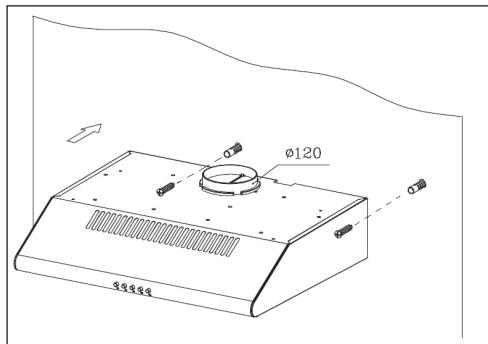
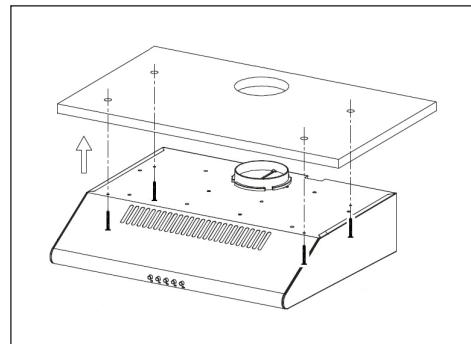

Fig. 4
Fig. 5
4. Drill the holes and fasten the hood according to Fig. 4 into the upper box, or according to Fig. 5 to the wall behind the hob.